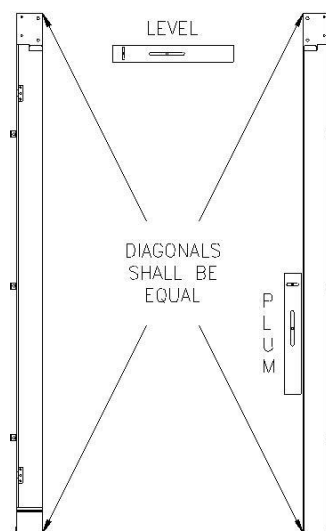

FIG. 2B
- **Make sure Side Frame is plumb and level** (Figure 2b).
a. **Check both Side Frames for plumb, level, and square (Figure 2b).**